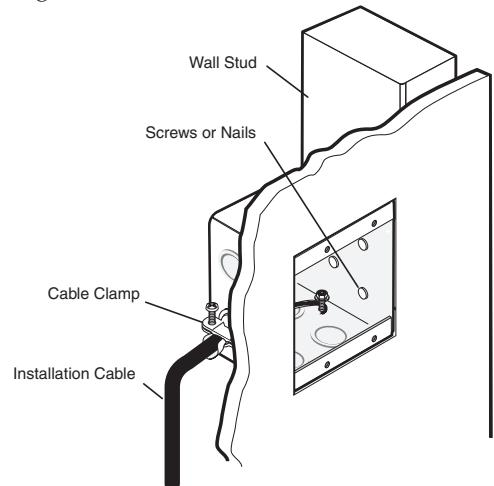

Figure 2-6 — Attaching the wall box to a wall stud
6. Insert the wall box into the opening, and attach it to the wall stud or furniture with nails or screws, leaving the front edge flush with the outer wall or furniture surface (figure 2-6).